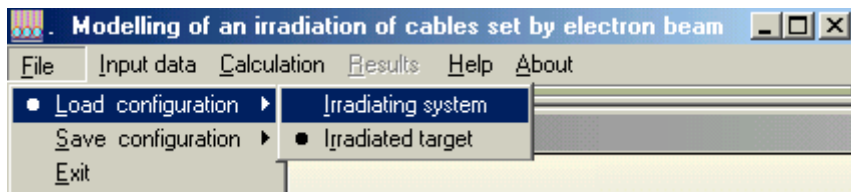
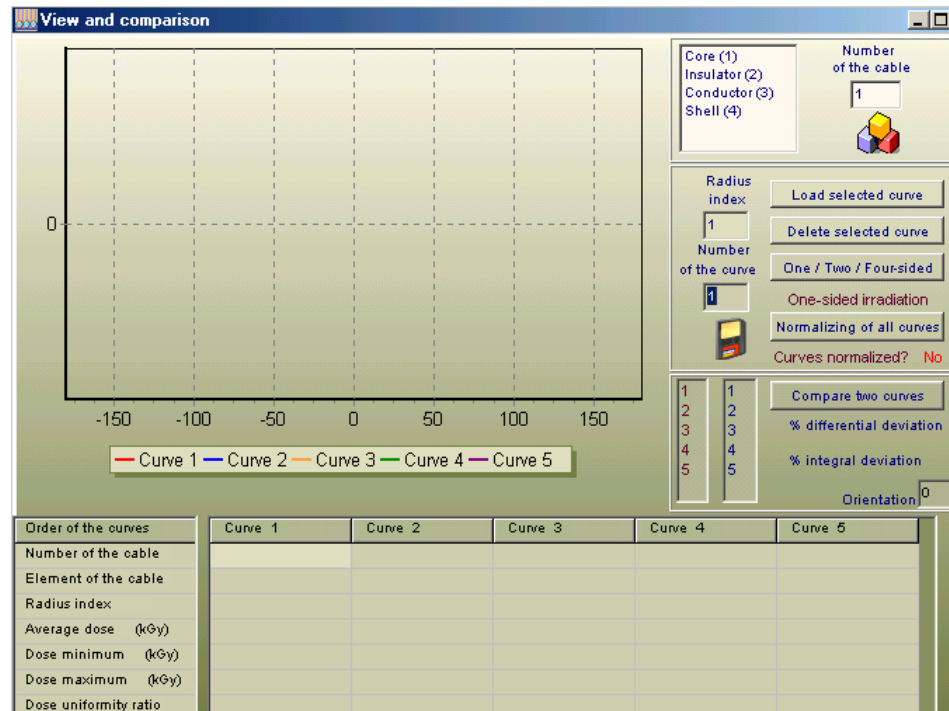

Fig.1. Main form of the Software ModeCEB
Fig.6. The frame “View and comparison”.
Figs. 1 (a), (b). The geometrical models for typical radiation facility with one EB irradiator that are used for one- or two-sided irradiation of tubes and cables.
Models in Fig.1(a) provides triangular regime of scanning, in Fig. 1 (b) – non-divergent (parallel ray) regime of scanning.
- Click the "File" then "Load configuration", then select "Irradiating system" and load the file "Test.rts". See Fig.1.
- Click “Input data” in the Main form of the Software ModeCEB (See Fig.1.)
- **Click** the button **“Calculation”** in the **Main form of the Software ModeCEB** (See Fig.1.). **The frame “Calculation” will be opened.** (See Fig.4 a, b)
- Click the button “**Results**” in the **Main form of the Software ModeCEB**. (See Fig.1.). The frame “**View and comparison**” will be opened. (See Fig.6)
- Enter the “**Number of cable**” for which you will made analysis of simulation results. See Fig.6 - Right up corner.
- To select the cable construction element, Click by a tick the **Core, Insulator, Conductor or Shell**. See Fig.6 - Right up corner.
- Enter the "**Number of cable**" for which you will made analysis of simulation results. See Fig.6 - Right blue corner.